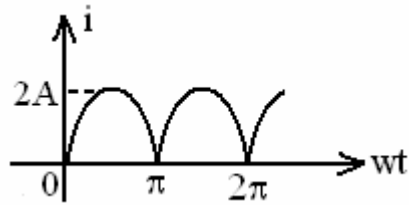

Figure 4
- 3.a) Find the form factor for the below wave form (shown in Figure 4).